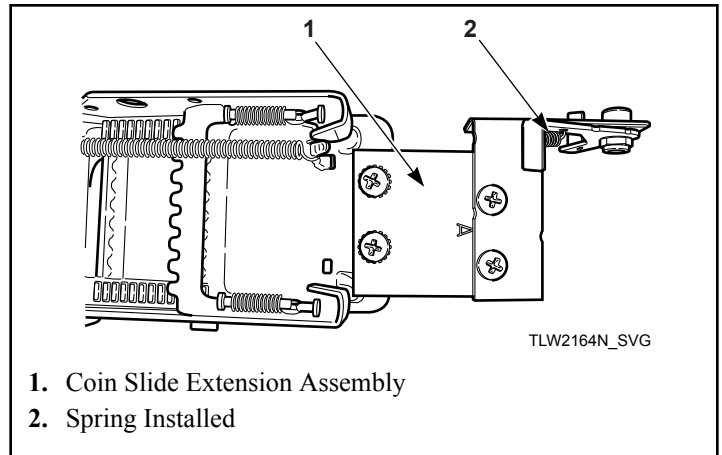

Figure 31
6. Install coin slide extension assembly onto top of coin slide using two remaining screws and lockwashers. Place lockwasher under head of screws, above bracket "A". Refer to *Figure 31* .
3. Install slide extension onto top of coin slide using two screws. Refer to *Figure 31*.